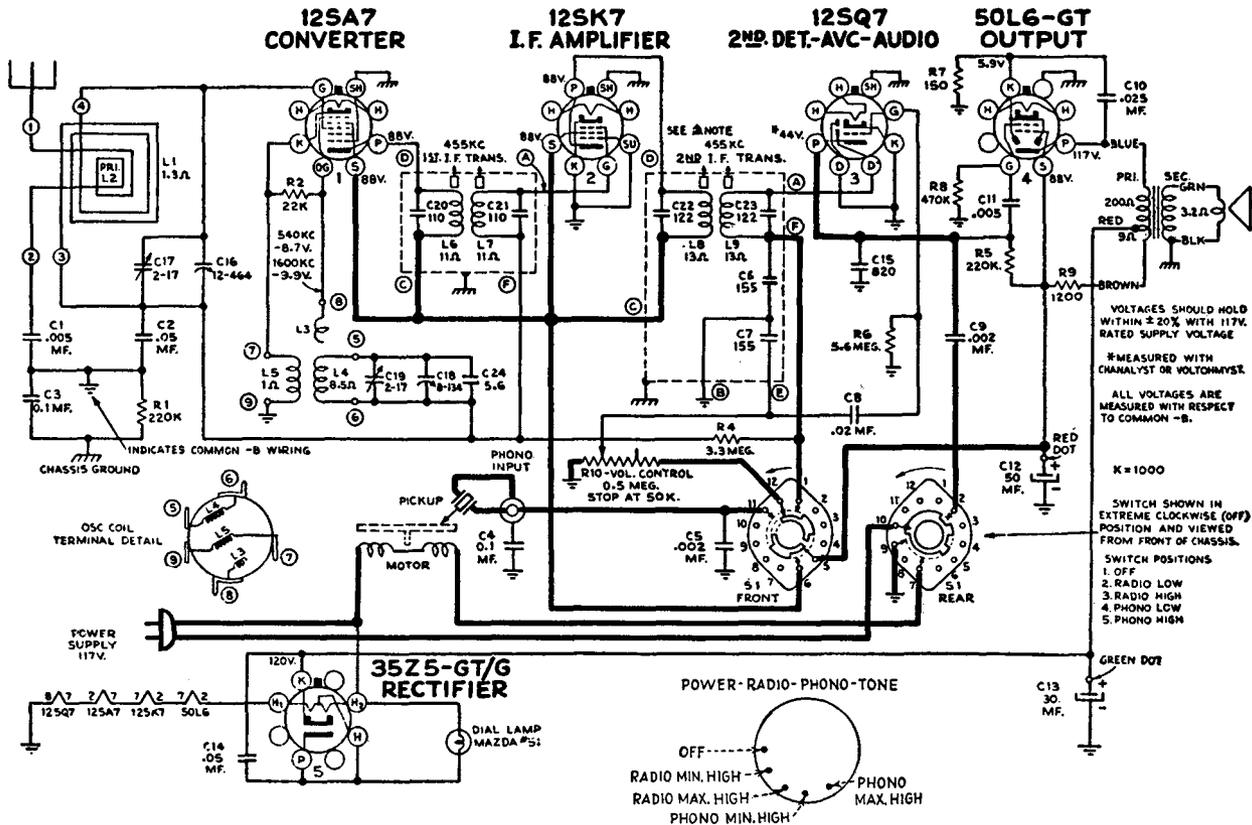
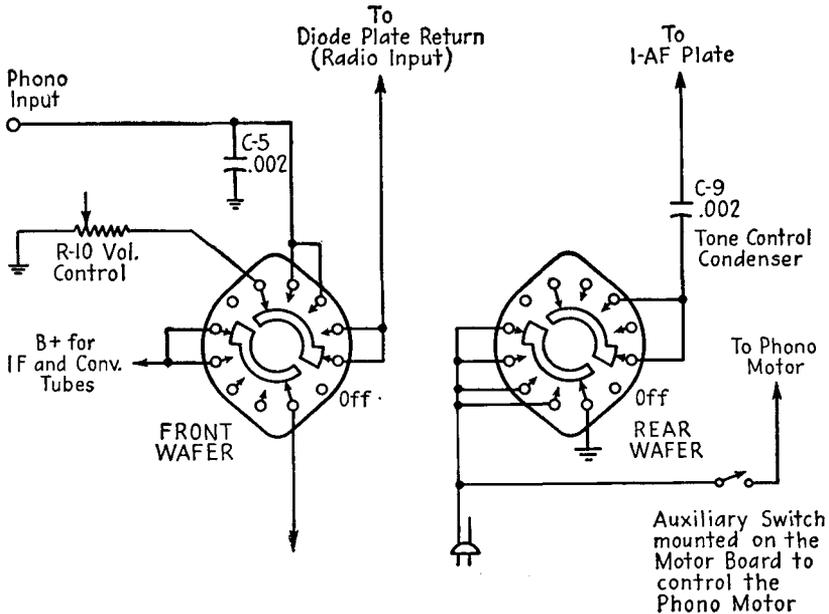

FIG. 12-17.—RCA Victor 55U radio-phonograph combination. The radio-phonograph switching is shown in heavy lines.
Fig. 12-23.—Alternate radio-phonograph switching circuit for the receiver of Fig. 12-17.
The radio-phonograph combination of Fig. 12-17 combines the on-off switch, the phonograph-motor switch, and the tone control with the radio-phonograph switch. The switch used is of the 5-point, 2-gang wafer type. The front-panel view of the switch is shown below the wafers in the schematic diagram. The operation of the switch can be analyzed by a study of the diagram and the following table.
When an original replacement switch is unobtainable, the serviceman must exercise his ingenuity to perform the operations of the original radio-phonograph switch with whatever standard switch is available and will fit the space requirement. For an extreme example, assume a defective radio-phonograph switch in the receiver of Fig. 12-17 and that an original replacement is unobtainable. A two-deck, four-arm, five-position switch could be substituted in accordance with the diagram of Fig. 12-23.
6. The receiver of Fig. 12-7 has a defective phonograph-radio switch. An exact replacement is not obtainable. The customer indicates a desire to have the phonograph motor operated from the phonograph-radio switch and, since he always uses his radio in the position of maximum high, he is not interested in the tone control. Redraw the diagram of Fig. 12-23 to meet these conditions.